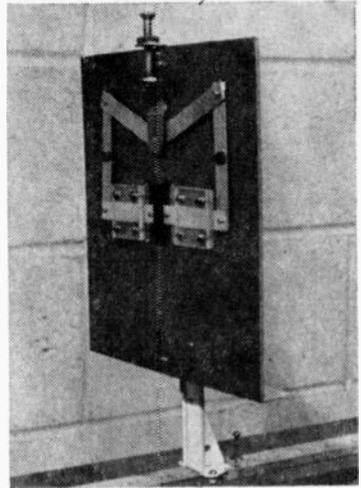

FIG. 12. Top bolt moves arms. Razor blades are blackened.
**Optical Slit.** You can short-cut the construction of the adjustable optical slit (Figs. 12 and 13) by simply cutting a  $\frac{1}{4}$ -in. x 1-in. vertical slot in the middle of a  $\frac{1}{8}$ -in. thick Masonite panel (about 8 x 8 in.). Tape two new single-edge razor blades over the slot so that their sharp edges form a slit about  $\frac{1}{16}$  in. wide. However, this make-shift slit does not have the manipulative flexibility offered by an adjustable slit. If you build the more versatile slit, chances are you will ultimately use it in other types of optical experiments.